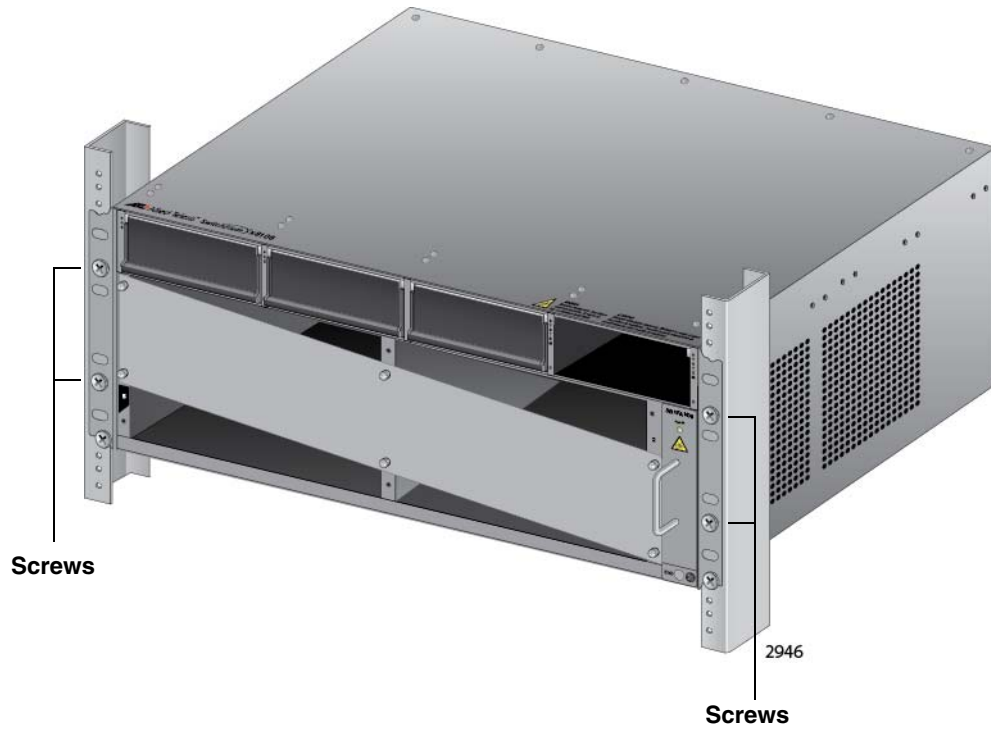

Figure 52. Installing the Rack Mount Screws
4. Install four rack mount screws (not provided) to secure the chassis to the equipment rack, as shown in Figure 52 on page 126.